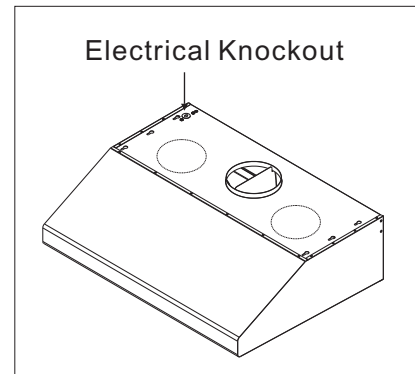

Fig.1
1. Remove the top electrical knockout, you may plan to bring power to the range hood either through the cabinet or through the wall (Fig.1)
- b. The electrical knockout hole. (Fig.1)